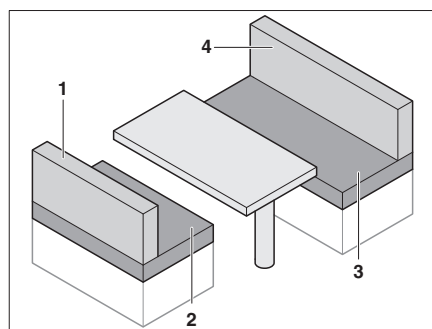

Fig. 74 Prior to conversion
- Remove the back cushions (Fig. 74,1 and 4).